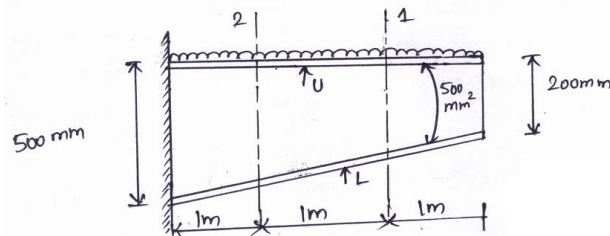

Fig. Q9 (a)
- 9 a. A wing spur has the dimension shown in Fig. Q9 (a) carries a uniformly distributed load of 15 kN/m along its complete length. Each flange has a cross sectional area of 500 mm² with the top flange being horizontal. If the flanges are assumed to resist all direct loads while the spar web is effective only in shear, determine the flange loads and the shear flow in the web at Sections 1 and 2 m from the free end. (10 Marks)
- b. The wing section shown in Fig. Q9 (b) has been idealized such that the booms carry all the direct stresses. If the wing section is subjected to a bending moment of 300 kNm applied in a vertical plane, calculate the direct stresses in the booms.